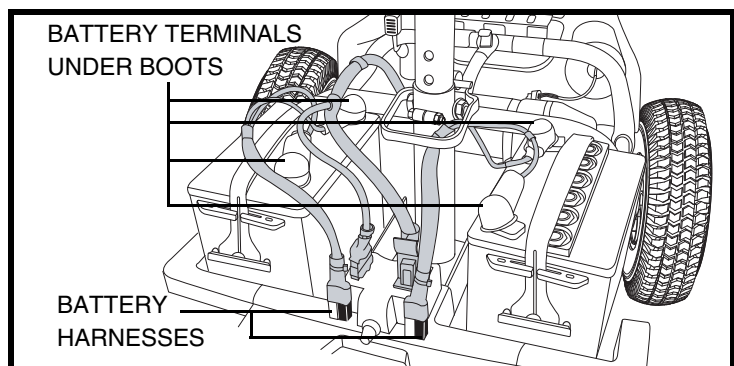

Figure 12. Battery Harnesses and Battery Cables
3. Disconnect the battery harness by pulling it straight up. See figure 12.